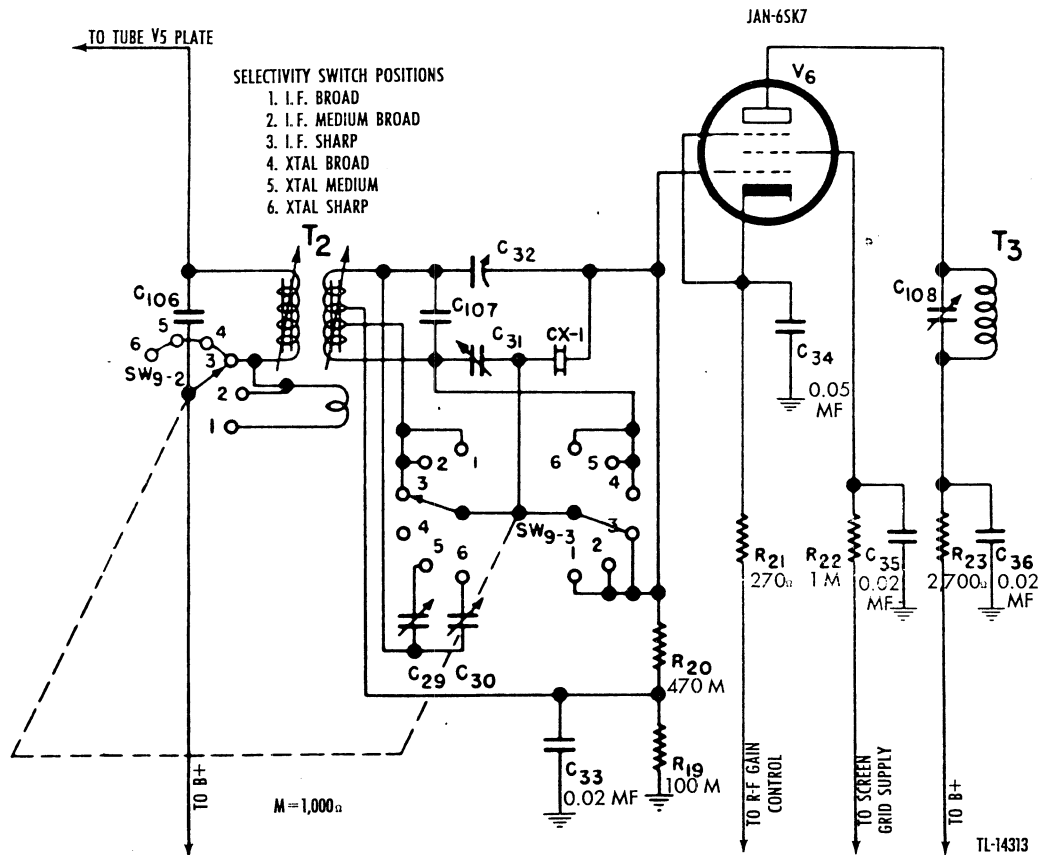

Figure 13. Crystal filter and second i-f amplifier, schematic.
**b.** Fixed capacitors C104 and C105 plus the permeability tuned coils resonate the primary and secondary of T1 to the intermediate frequency. The bandwidth of transformers T1 and T2 is broadened by inclusion in the circuit of additional inductance controlled by switches SW9-1, and SW9-2 (fig. 12) which works in conjunction with SW9-3 (fig. 13).
- (1) BROAD I.F. (for high-fidelity reception).
- (2) MED. I.F. (more selectivity, less highs).
- (3) SHARP I.F. (reduces interference, far less highs).
e. In positions 1, 2, and 3 of switch SW9-3 (fig. 13) the crystal
f. In position 6, or XTAL SHARP, the trimmer C30 (fig. 13) has been adjusted for the sharpest crystal action. Under this condition, the secondary is slightly detuned from the resonant crystal frequency sufficiently so that its resonance curve is not greatly affected by the crystal but still coupled tightly enough so that it can transfer energy to the crystal circuit. As this point was reached, it was indicated by a rise in the output. Two such points of increased output will normally occur—one for each adjustment of the secondary on either side of the resonant frequency of the crystal.